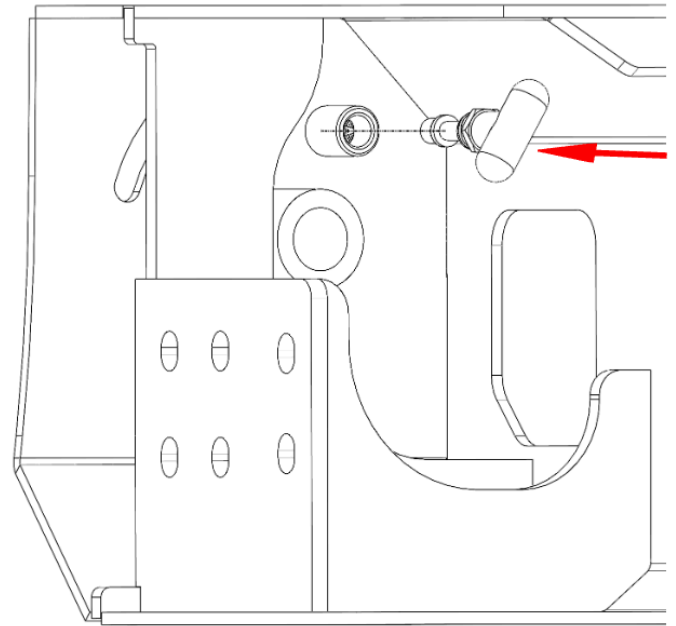

Figure 2
1. Install the T-handle locking pins (61780) into the winch trail (22368) by threading it into both the left and right sides. **NOTE:** Once installed, pull the T-handle and lock it in place by turning the handle into the lock position. Figure 2.